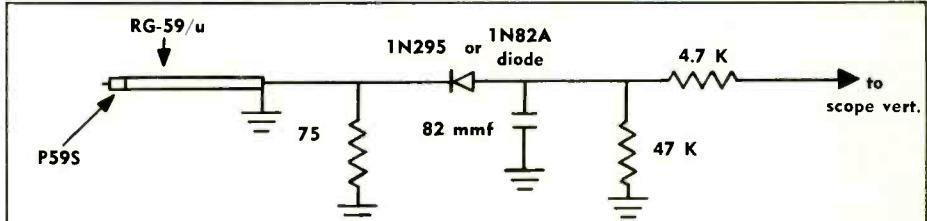

Figure 6
5. A detector, which you'll have to make, as shown in figure 6